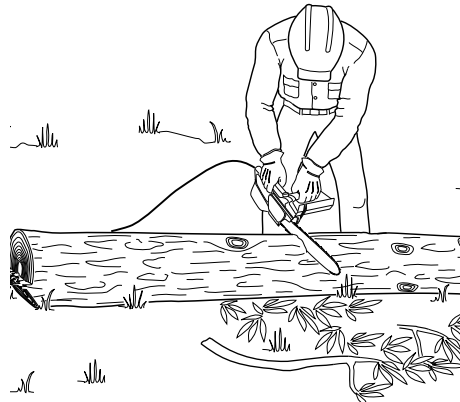

Figure 15 - Bucking Log With Entire Length On Ground
1. Cut log from top (see Figure 15).